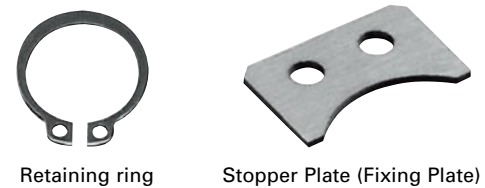

Figure 3 Examples of Straight Linear Bushing installations
1. Fixing a Straight Linear Bushing, using Retaining Ring or Stopper Plate (Fixing Plate) (**Photo 3**) is shown in **Figure 3**.